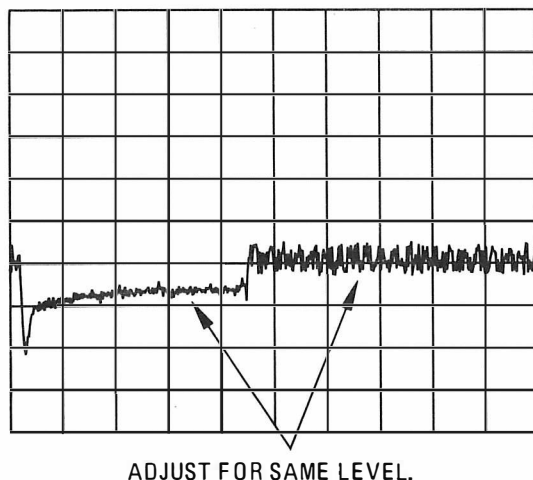

Figure 5-65. Typical A26TP2 (DET) Pulse Waveform.
5. Set the oscilloscope to 1 usec/Div. The CH A trace should be similar to Figure 5-65.